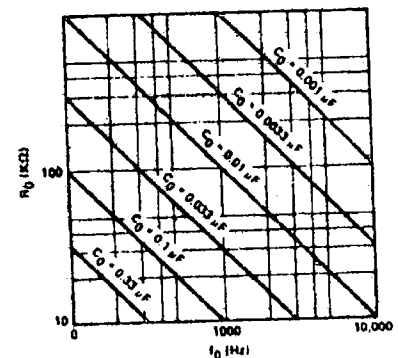

Figure 5: VCO Frequency vs Timing Capacitor.
- Step 3: Calculate  $C_0$  from Figure 5:  $C_0 = 0.044 \mu$ F